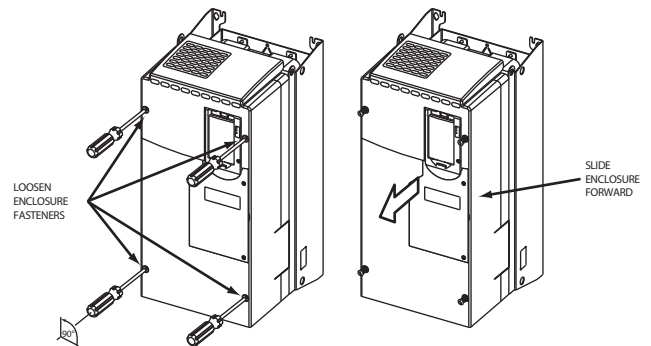

Fig. 21 — Removing Enclosure
3. Remove the enclosure. See Fig. 21.
7. Install the enclosure. See Fig. 21.
6. Install the enclosure. See Fig. 21.
5. Install the enclosure. See Fig. 21.